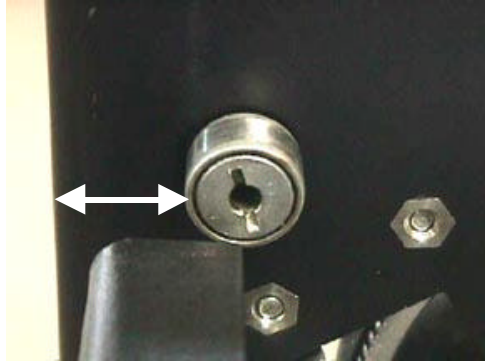

Fig. 2
- ∑ Measure from the front edge of the chassis frame to the front of the cam follower. (See Fig. 2) The location of the cam follower from the factory is all the way towards front of plotter, approximately 7/16".